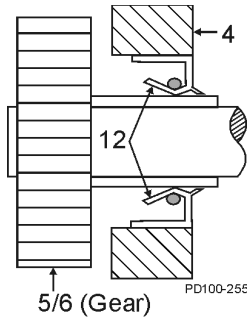

Figure 75 - Orientation of Oil Seal
2. Press the new oil seal (Figure 75, item 12) into the gear case cover (item 4) flush with outside face, with the spring facing in.